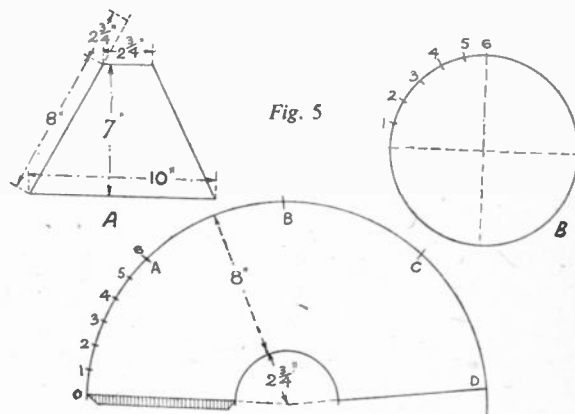

Fig. 5
to purchase a suitable shade for the lamp, but for those who wish to make one, details are given here. Any size of cone-shaped shade may be set out from the directions given. Say, for the sake of simplicity, that we require a cone made to the shape (A) in Fig. 5. The first thing